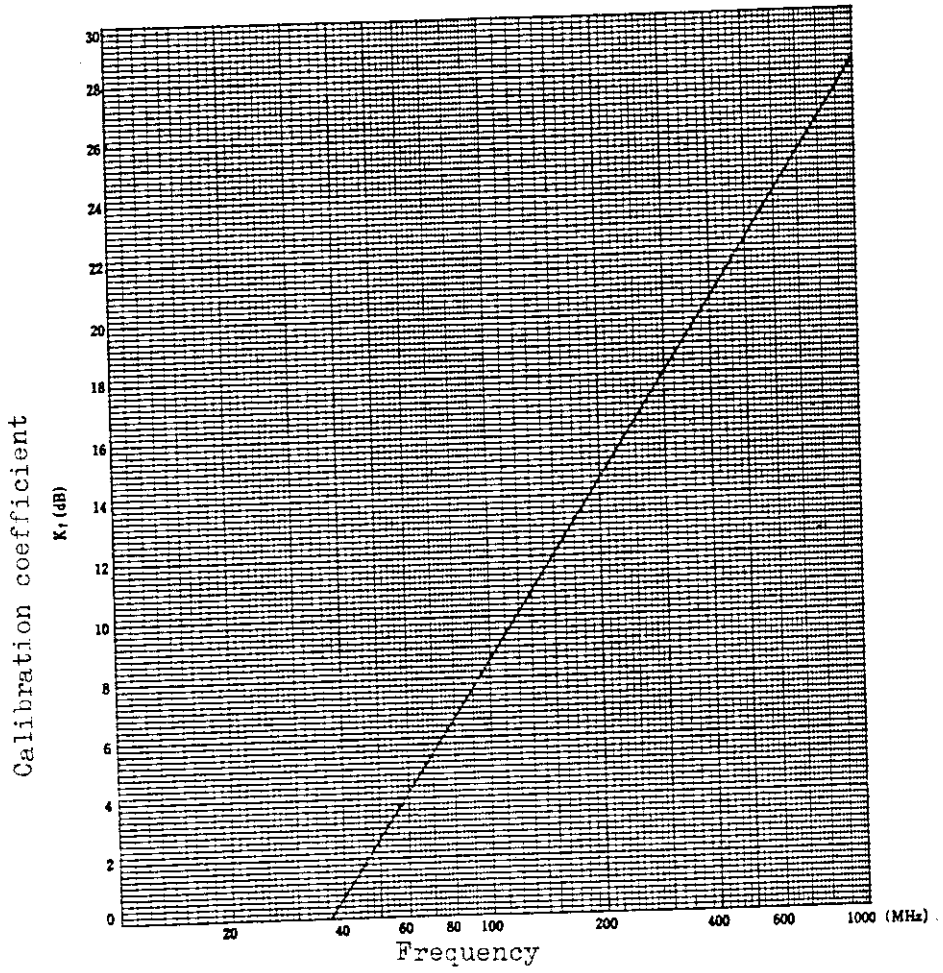
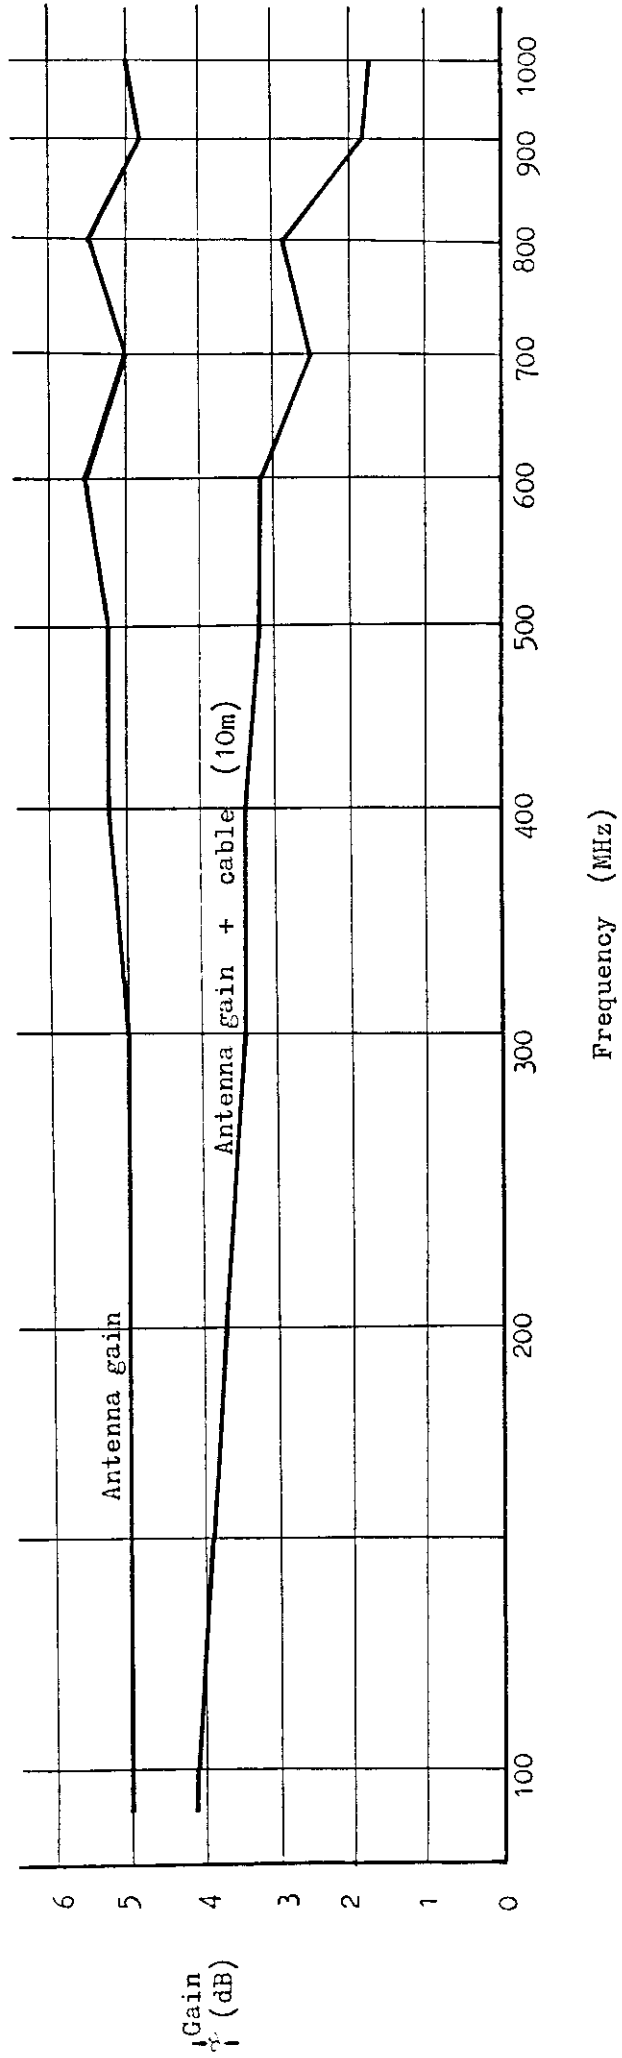

Fig. 3 Field strength measurement calibration coefficient of $\lambda/2$ dipole antenna
Fig. 4 Antenna gain and antenna gain + cable calibration curve
- 3 Find the field strength E_x (dBμ/m) by means of the following equation, using the input voltage value E_m (dBm) read at the tracking scope and the conversion coefficient K_1 (see Fig. 3) for a $\lambda/2$ dipole antenna from the frequency and the gain K_2 ($\lambda/2$ dipole ratio) of the TR 1711 log periodic antenna (see Fig. 4).
Here, $E_m = -61 \text{ dBm}$, $K_1 = 6.6 \text{ dB}$ from Fig. 3, and $K_2 = 4.2 \text{ dB}$ from Fig. 4. Therefore, field strength E_x is,
3 Find the field strength (dB μ) by means of the following equation, using the input voltage value E_m (dB μ) read at the tracking scope and the conversion coefficient K_1 (see Fig. 3) for a $\lambda/2$ dipole antenna from the frequency and the gain ($\lambda/2$ dipole ratio) of the TR 1711 log periodic antenna.
K1 is given in Fig. 3 as the $\lambda/2$ dipole antenna conversion coefficient. (See NOTE1)
The gain of the TR 1711 is indicated by $\lambda/2$ dipole ratio and is given in Fig. 4 with the cable loss added.
K_1 is given in Fig. 3.